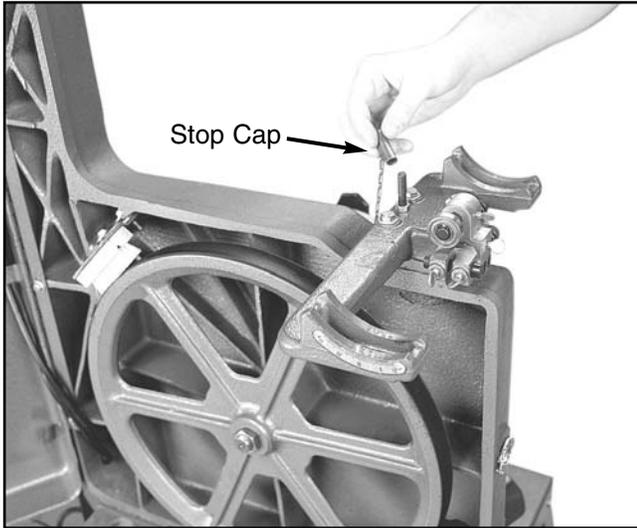

Figure 21.
4. A stop cap covers the positive stop. A predetermined thickness in the end of this cap will automatically allow the table to tilt toward the column of the saw 10° when this cap is removed as shown **Figure 21**.